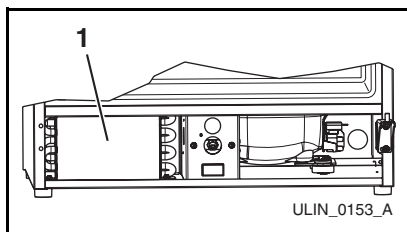

Figure 8
5. Clean the condenser coil (**Figure 8, 1**) using a soft brush with a "combing" action or vacuum cleaner. Do not touch the condenser coil.